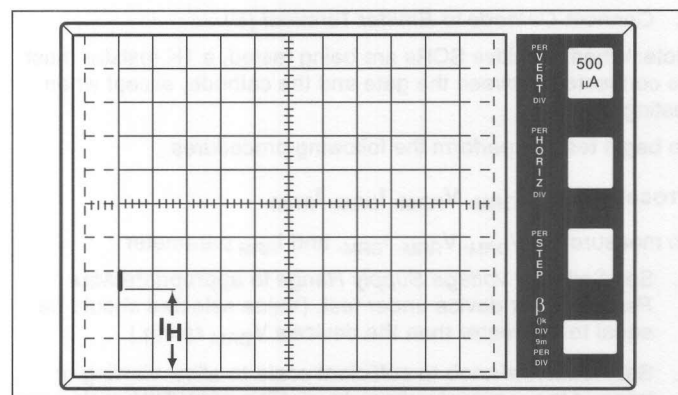

Figure 19.6 I_H is 1.2 mA
- Set *Number of Steps* to (1).
- Increase *Variable Collector Supply* to maximum position (100).
- Decrease *Variable Collector Supply Voltage* to the point where the line on the CRT changes to a dot. The position of the beginning point of the line, just before the line becomes a dot, represents the holding current value (See Figure 19.6.)